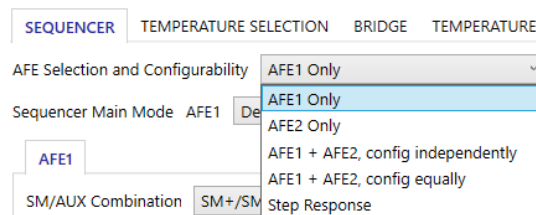

Figure 22. AFE Selection and Configurability
“The AFE Selection and Configurability” option (Figure 22) allows to configure the following options:
The AFE activation control is handled by the “Sequencer” tab, through the selection of the preferred option as displayed in Figure 22. If both AFEs are active, the GUI displays if they are configured equally or independently.
**Note:** The selected activations are automatically changed in the GUI if the configuration chosen in the sequencer is modified (refer to Figure 22). This allows to keep consistency in the device configuration.
**Note:** The channel assignments selected by the user may be automatically changed in the GUI in case the user afterwards modifies the configuration chosen in the sequencer (refer to Figure 22). This allows to keep consistency in the device configuration.